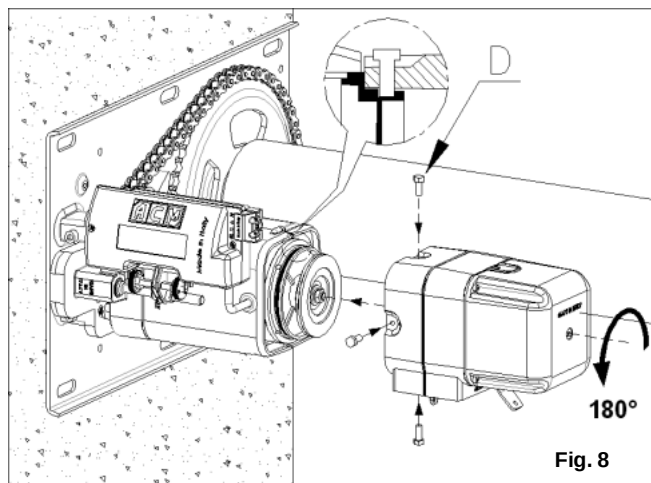

Fig. 8
The gearmotor provided is configured for installation to the right of the shutter seen from inside. However the system is arranged to be installed on both right and left as shown in Fig. 8 and 9. After fixing the winding shaft, assemble the motor on the bracket transmission by matching the three pins with the respective locations of the gear unit (see Figure 4). At this point push the stop bracket on the engine, fitting the trap hex drive shaft in the seat of the toothed pinion. Tighten the gear motor using the three M10 nuts.
EN - For the configuration on the left of the gear motor, proceed as follows: Unscrew the 4 screws (D) shown in Figure 8 to release the electric brake assembly. Rotate the brake assembly 180° rotation in such a way that the chain, used for the manual operation, is facing perpendicularly downward. At this point push the brake assembly to overcome the resistance of the internal spring and proceed to tighten the 4 screws that were previously loosened. **Caution:** verify that the 4 screws fit properly into the groove of the electric motor as shown in the Figure 8 detail. This operation is essential for the proper functioning of the electric brake assembly.